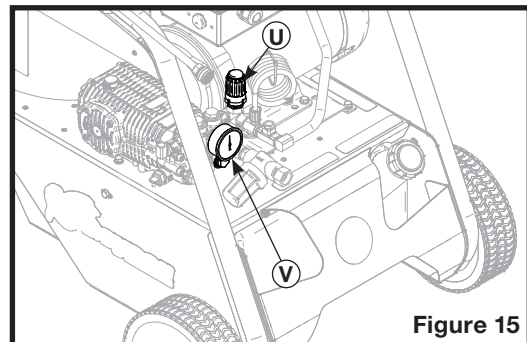

Figure 15
8. Pressure can be adjusted by means of the high pressure regulator (U on figure 15) up to 3000 psi. Pressure is read on the pressure gauge (V on figure 15).